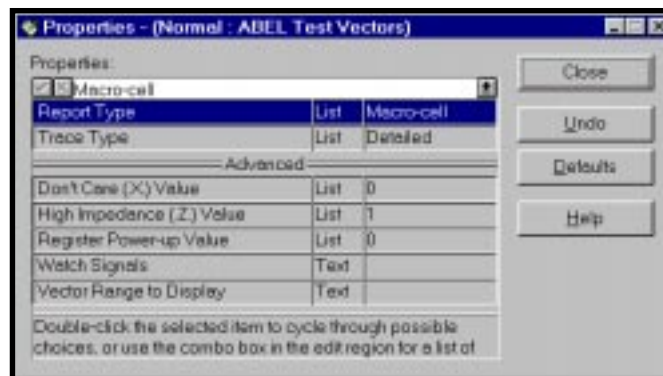

Figure 5-8. Properties Dialog Box - Report Type: Macro-cell
3. In the Properties dialog box (Figure 5-8), select Report Type and set the List property to Macro-cell. Then close the dialog box.